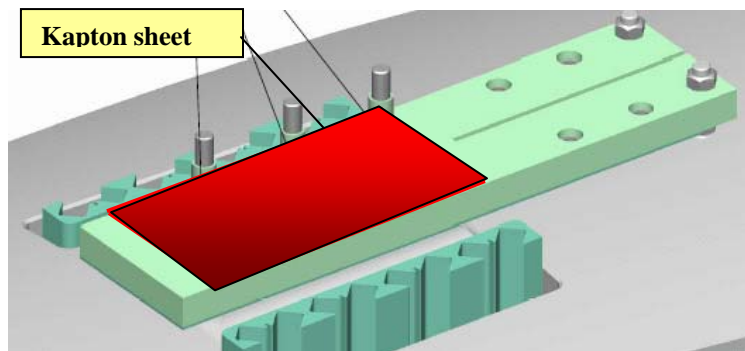

Figure 17-Install Studs, Insulating Sleeves and Kapton sheets
- Install the (3) studs and insulating sleeves into the G-11CR base plate using Loctite 2440 on the threads per manufacturer's instructions. Figure 17-Install Studs, Insulating Sleeves and Kapton sheets
- Begin by positioning Kapton sheet [0.002 in. minimum thickness] onto the G-11 base-plate in the areas where the jumpers interface with the plate. The Kapton sheet shall extend over the mounting hardware that secures the G-11 plate to the winding form. This will improve the electrical tracking distance. [See Figure 17-Install Studs, Insulating Sleeves and Kapton sheets]